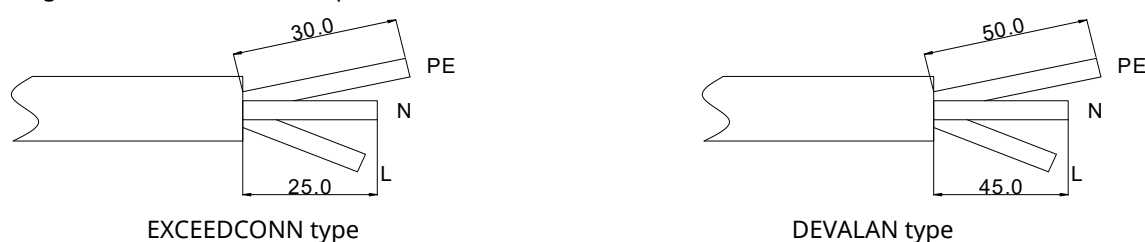

FIG. 7-3 Adjust the Cable Length
The grid connection is established by using three-core wire (L, N, and PE, as per FIG. 7-3).
1) Strip the cable's jacket, and then adjust the relative length of L, N and PE cables, to make the length of PE cable is at least 5mm longer than L and N ones, as per FIG. 7-3.